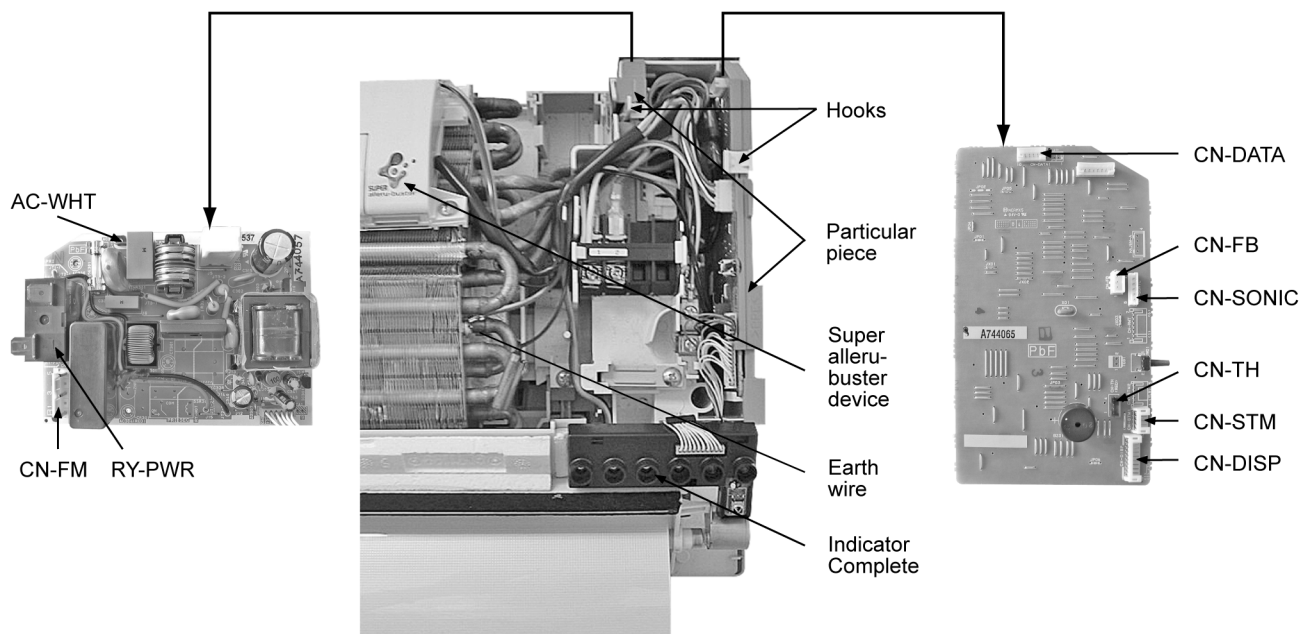

Fig. 4
- Pull the hook then remove the particular piece. (Fig. 4)
- Release CN-DISP. (Fig. 4)
- Release CN-STM. (Fig. 4)
- Release CN-TH. (Fig. 4)
- Release CN-SONIC. (Fig. 4)
- Release CN-FB. (Fig. 4)
- Release CN-DATA. (Fig. 4)
- Release CN-FM. (Fig. 4)